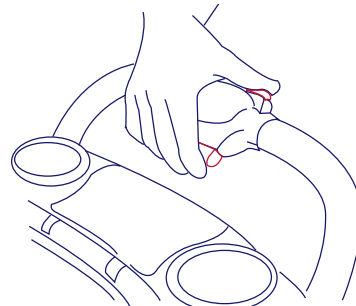

Figure 6.
- To fold the stroller slide the red handle in the center of the handle to the left and squeeze while pushing forward on the handle. Once the stroller begins to fold, release the red handle and pull backward on the front frame until stroller is folded. Please see figure 6. Secure the stroller in the folded position by latching the fold latch, located on the right side of the stroller at the intersection of the handle and the rear tube, over the extended rivet on the lower frame tube. Please see figure 7.